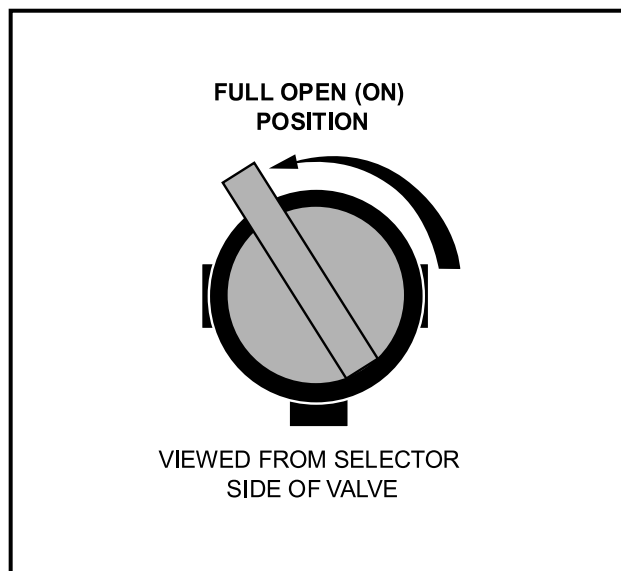
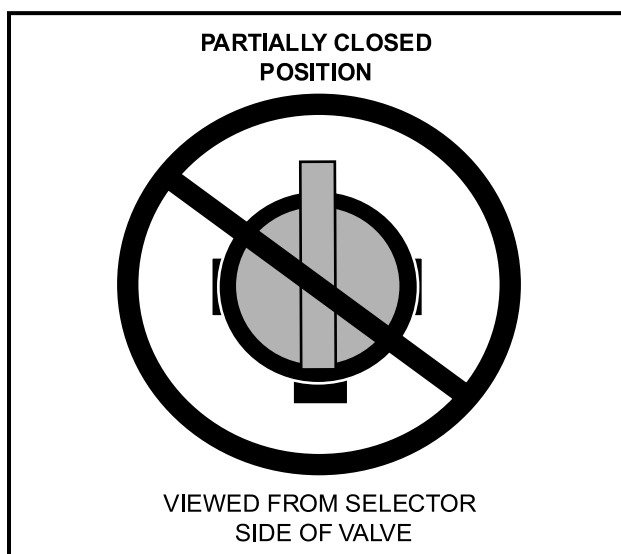

Figure 15 Fuel Shut-off Valve – Open Position
Figure 16 Incorrect Fuel Shut-off Valve Setting
- 1.1. Remove plug from the fuel tank vent nipple and open the fuel shut-off valve (**Figure 15, Page 25**). Make sure the valve is fully open. A partially closed fuel shut-off valve (**Figure 16, Page 25**) combined with the use of the choke, can result in a fouled spark plug and engine failure.